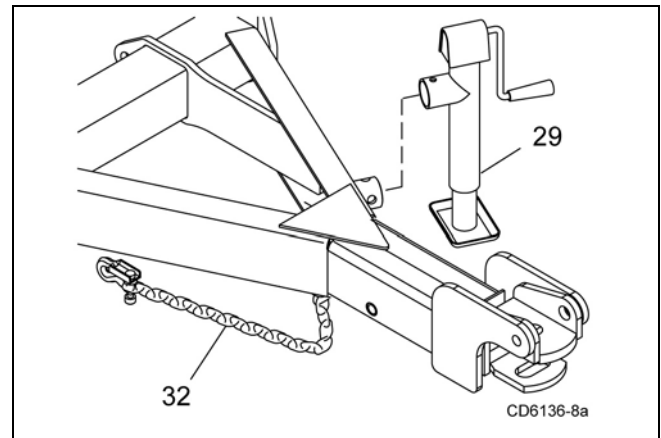

Figure 1. Cutter to Tractor Connection
2. Attach safety tow chain (32) to drawbar support. Leave enough slack for turning (Figure 1).
4. Remove parking jack (29) from the tongue and attach it to the storage post on the front of the left wing.